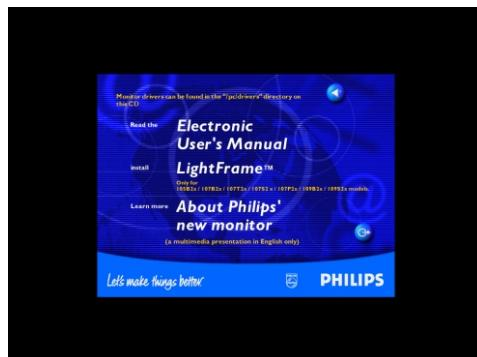

Fig 2
2. Click one of languages (for example : English) on the screen, bring up Fig.2